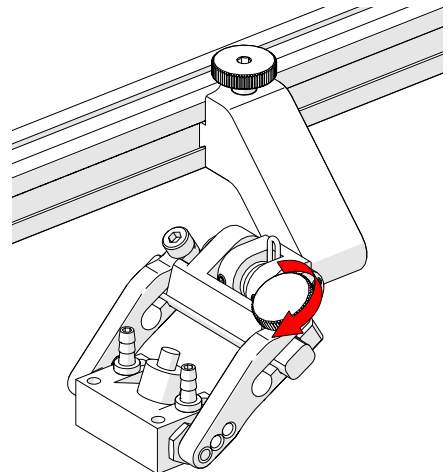

Fig. 34 - Tighten probe holder knob
8. Tighten the probe holder arm adjustment knob (Fig. 34).